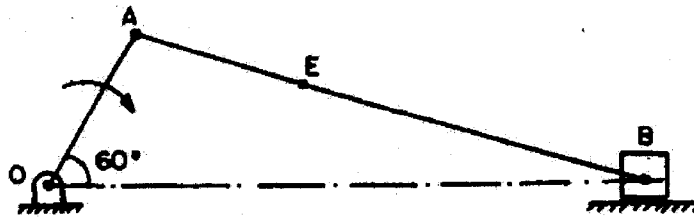

Fig.2
- The crank OA rotates at 200 r.p.m. clockwise. $OA=500$ mm, $AB=1500$ mm and $AE=450$ mm. (Fig.2)